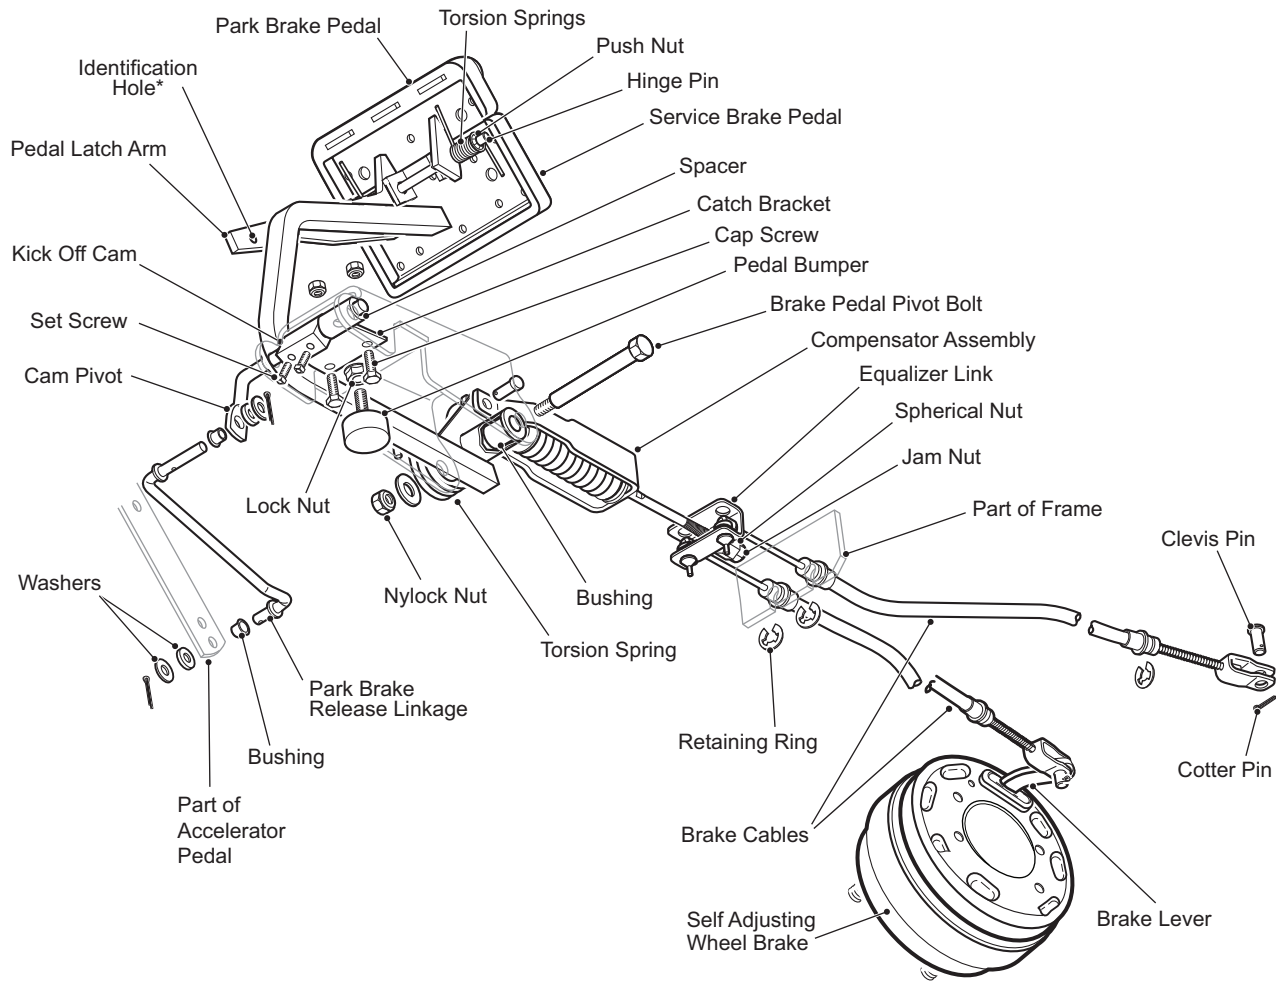

Figure 1 Mechanical Brake System
- Remove the spindle assembly and clean the king pin bushings with solvent. (Ref Fig. 1) If the inside diameter of the bushings are worn to .880" (22 mm) or greater, the bushings should be replaced.
This vehicle is equipped with a mechanically activated rear drum brake system. The brake system consists of a service brake and parking brake pedal, parking brake release linkage, compensator assembly, equalizer link, brake cables and self adjusting wheel brake assemblies (Figure 1).
Pressing the service brake pedal pulls the compensator assembly and equalizer link, which are connected to the brake cables (Figure 1). The first part of the pedal travel removes slack from the system. Continued motion of the brake pedal pulls both the left and right brake cables. Each brake cable pulls a brake lever which pushes the rear brake shoe against the brake drum. When the rear